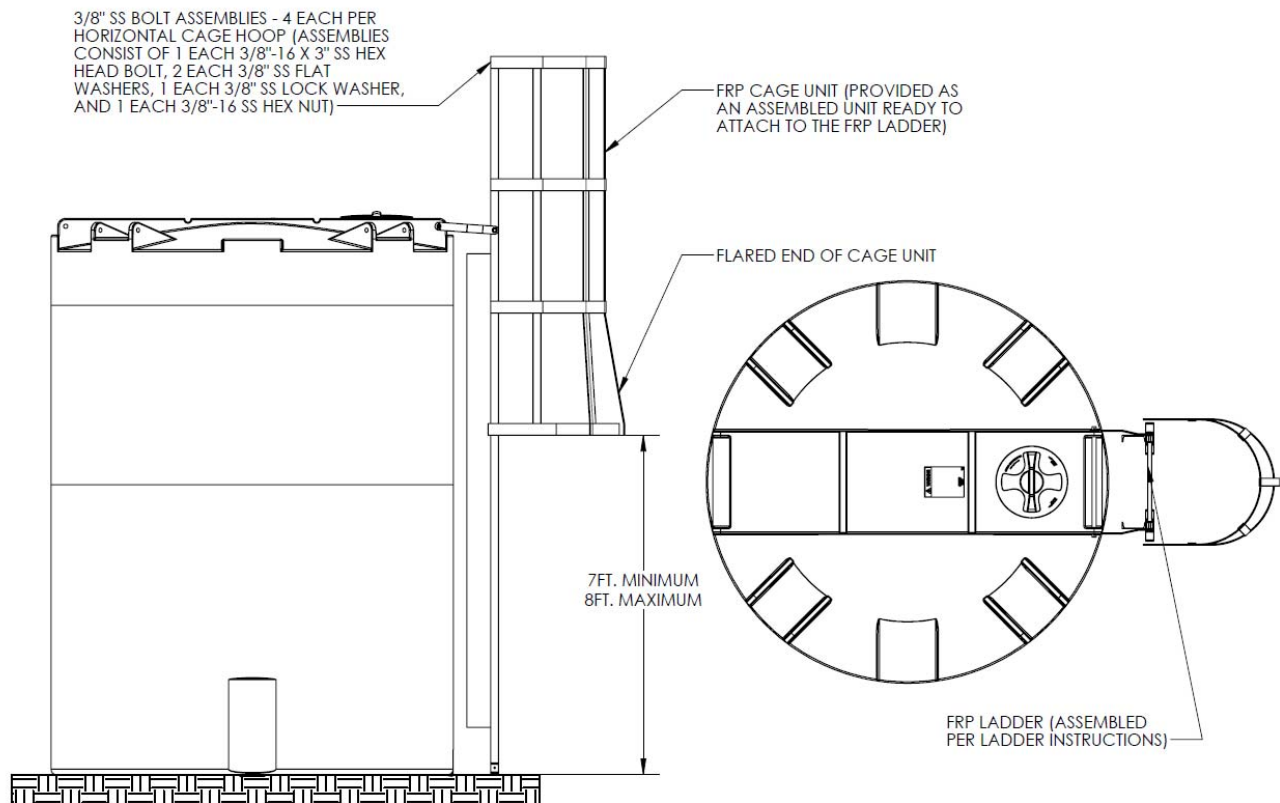

Figure 8.8
8.8.1 Using the assembly drawing shown in Figure 8.8 and the instructions in section 8.7.2, verify that the correct number of fasteners have been shipped to attach the FRP cage unit. These cages are designed for use only with the SII FRP ladder design. Cages are required for ladders used to ascend to heights exceeding 20 ft.